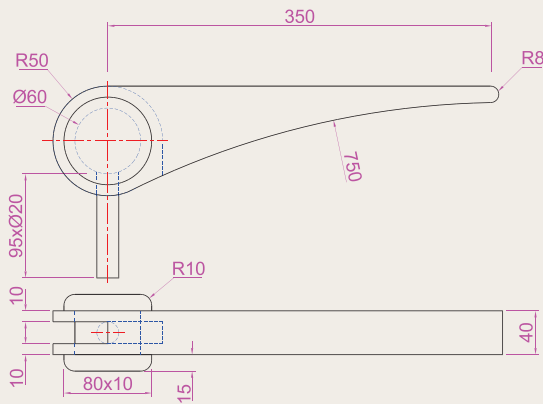
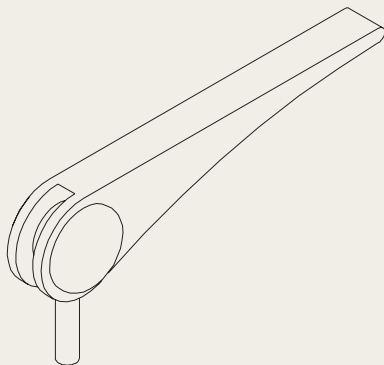

Fig. 13.16 Exercise 4 – orthographic projection
Fig. 13.17 Exercise 4
4. A two-view orthographic projection of a rotatable lever from a machine is given in Fig. 13.16, together with an isometric drawing of the 3D model constructed to the details given in the drawing of Fig. 13.17. Construct the 3D model drawing in a **Four: Equal** viewport setting.